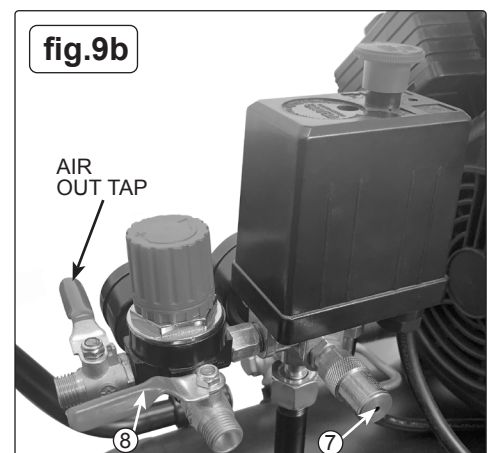

fig.9b
Should the pressure in the main tank exceed the pre-set maximum, the safety valve (fig.9b.7) will activate. Clean the safety valve after working 1000 hours, along with the compressor thoroughly cleaned. See section 6.6. Cleaning.
- 5.3.5. The tank must now be drained. Release the air left in the tank by opening air tap (fig.9b.8). After, drain away condensation that may have formed within the tank. Choose a suitable location for this operation and/or make provision to collect the condensation.